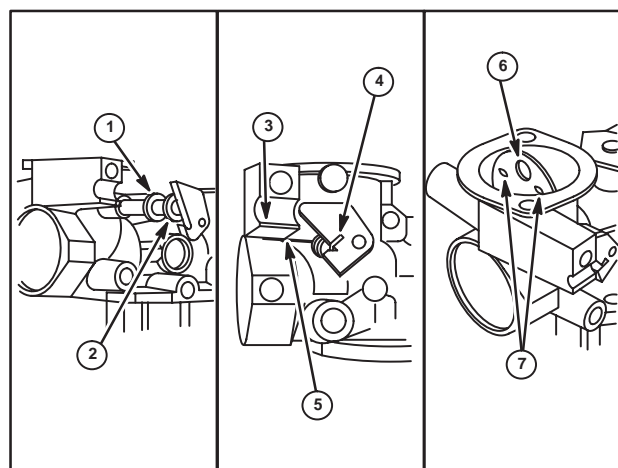

Fig. 86
1. Place metal washer (2) next to choke lever and then foam washer (1).
2. Insert shaft assembly in carburetor body with stop against remote control boss (3).
3. Insert choke plate in shaft with hole (6) and indentations towards large welch plug (7), Fig. 86.
NOTE: On Choke-A-Matic® carburetors, be sure that both ends of choke spring are engaged before sliding shaft all the way into carburetor. Lever end (4), body end (5), Fig. 86.